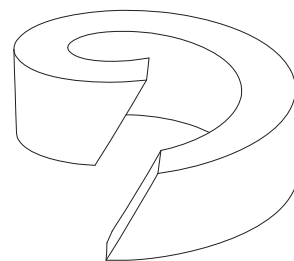

Fig. 8: split packing ring
- Insert the new packing ring (pos. 17) as shown in Fig. 8
If a split packing ring is used, cut with a chamfer as shown in Fig. 8.